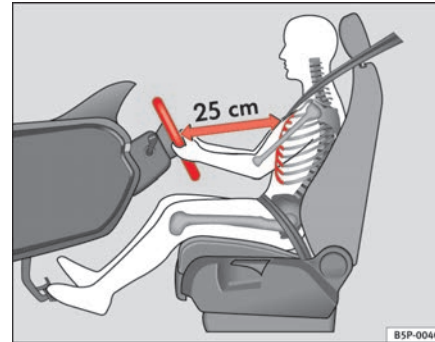

Fig. 134 Proper sitting position for driver
- Adjust the steering wheel in this way until the correct position is set ⇒ fig. 134.
- Adjust the driver seat or steering wheel so that there is a distance of at least 25 cm between the steering wheel and your chest → page 163, fig. 134. If you fail to observe the minimum distance, the airbag will not protect you. Risk of fatal injury.